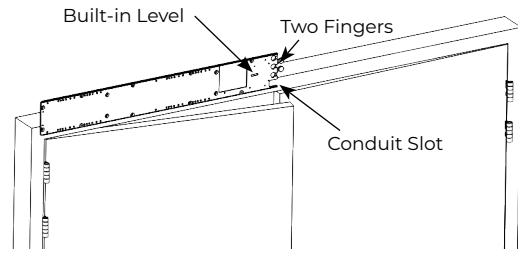

Figure 4
2. Slide left backplate over mounting screws. (Figure 4)
3. Use level in backplate to align then tighten mounting screws. (Figure 4)